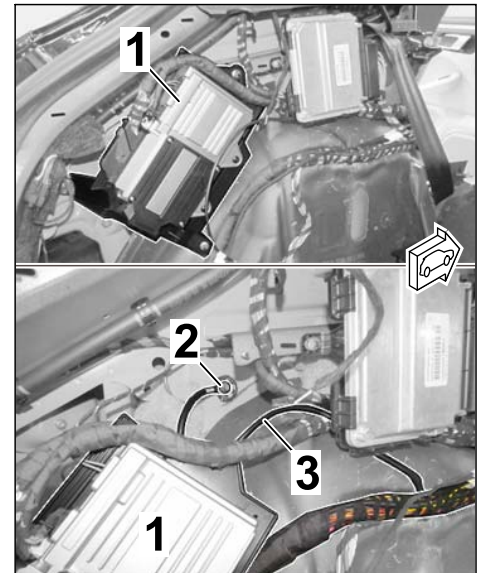

Figure 36
- 3.1.3 Fit cable ring eyelet A6 (ground) on ground pin MB 43 (⇒ Figure 36)